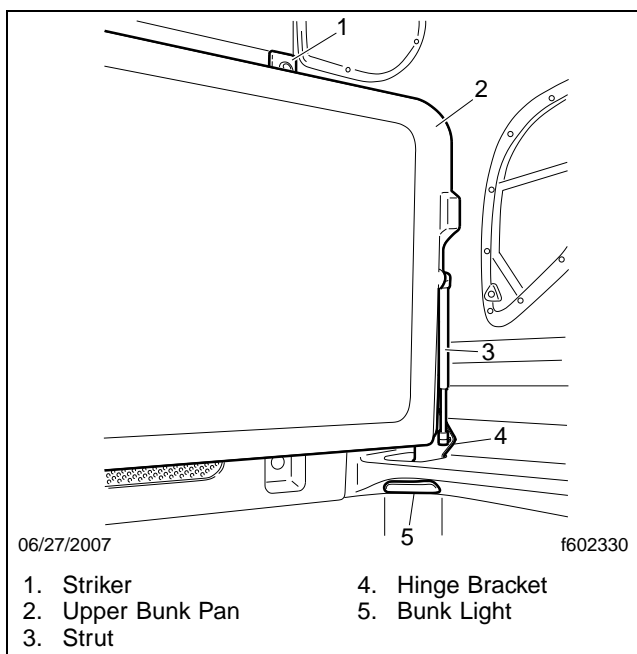

Fig. 23, Upper Bunk (shown folded up)
4. Remove the bunk lights (if so equipped) from the "halo" trim panel corners, as follows: See **Fig. 23**
3. Install the light fixtures, if so equipped, as follows: See **Fig. 23**.